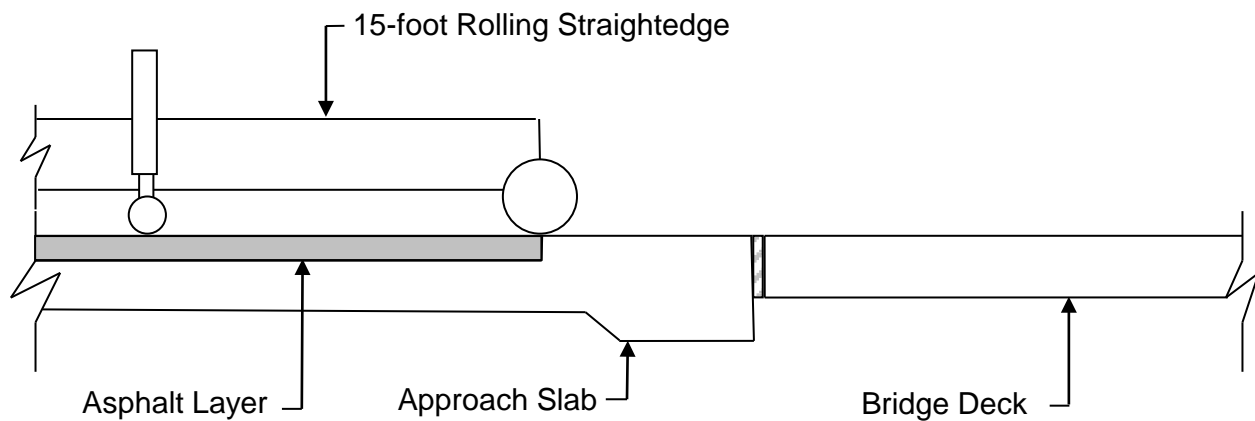
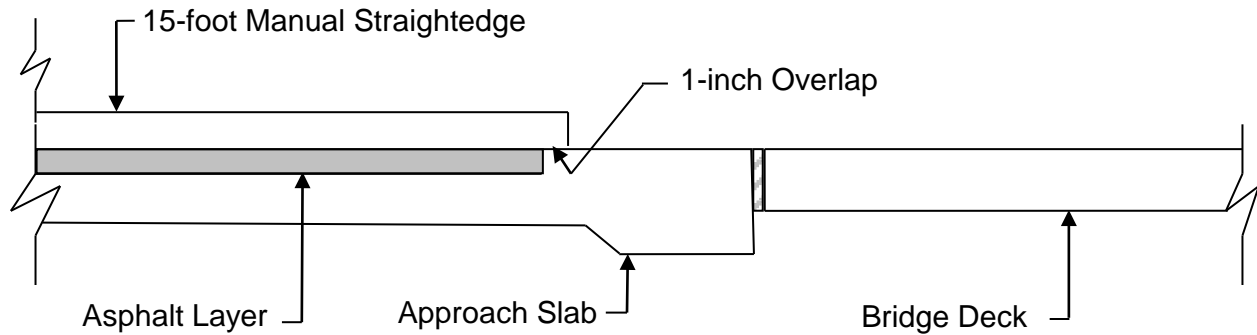

Figure 1 - 15-foot Rolling Straightedge at Approach Slab
Figure 2 - 15-foot Manual Straightedge at Approach Slab
- 4.6 For bridge approaches, place the rolling straightedge on the new pavement and start the rolling straightedge at the same location from the previous straightedging operation. Pull the rolling straightedge toward the joint until the front wheel reaches the end of the asphalt layer (see Figure 1). Mark any deficiencies up to that point, as described in 4.2. Place a 15-foot manual straightedge in the same location while overlapping the approach slab by one inch (see Figure 2). Mark the pavement at any location that shows a deficiency.